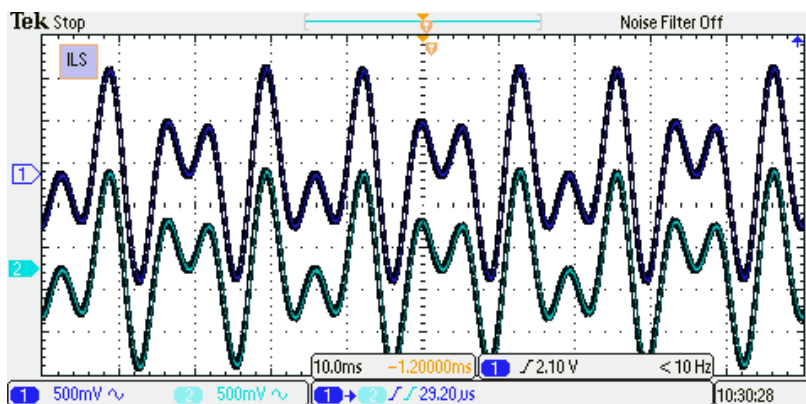

Figure 6 – COU/CLR Synchronization Waveform
- Check for the synchronization between these two signals (see Figure 6)